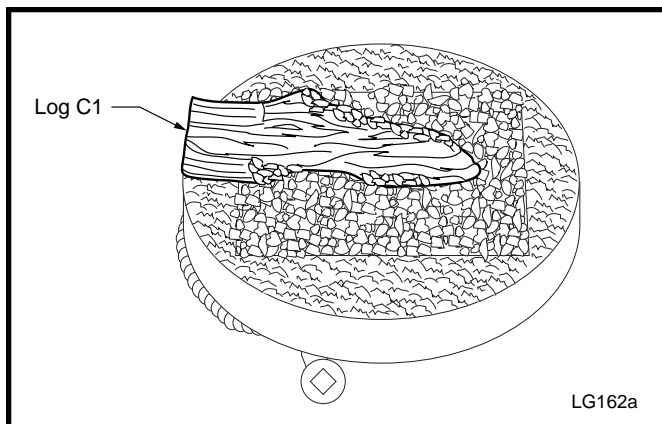

Fig. 11 Place log C1 on locator pins on burner.
- Place log C1 on burner, using locator pins and holes in bottom of log. (Fig. 11)